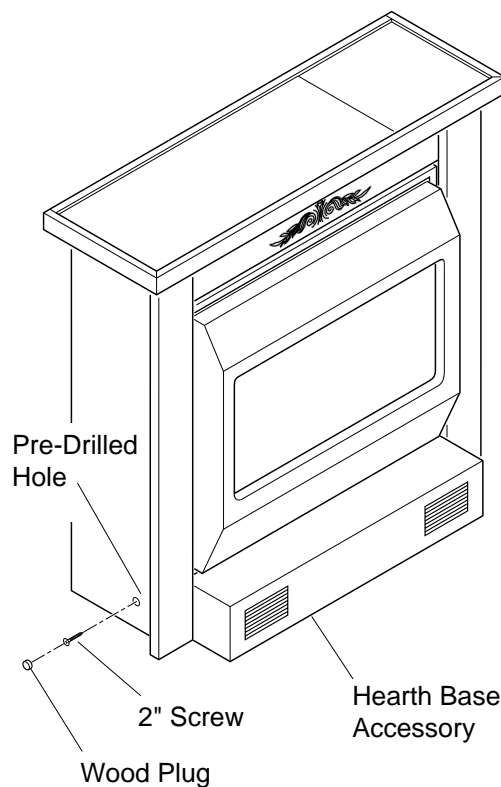

Figure 23
2. Locate pre-drilled holes at bottom of each side of mantel (see Figure 23). Use an electric drill with 1/8" drill bit. Insert drill bit into pre-drilled holes in mantel and drill through heater hearth base. Make sure the drill bit does not damage any gas plumbing lines inside hearth base.
3. Locate two 2" screws from hardware package. Insert screws through pre-drilled holes at bottom of each side of mantel (see Figure 23). Tighten each screw into the heater hearth base. Make sure the screw tips do not damage any gas plumbing lines inside hearth base. *Note:* The pre-drilled holes are countersunk. Tighten the screws all the way into the holes.
4. Locate two wood plugs from hardware package. Insert plugs into screw holes (see Figure 23). Tap into place.